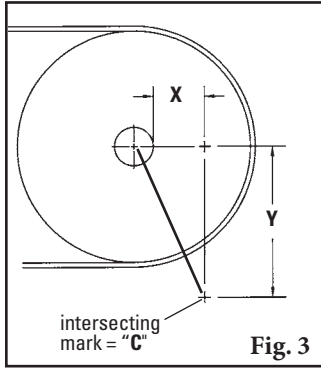

Fig. 3
- Determine Y dimension.** From the X mark, draw a line vertically down to the selected Y dimension and make a mark (Fig. 3). This is the correct position for the center of the pole. Verify “C” dimension from table on page 11 (imperial) or 12 (metric).